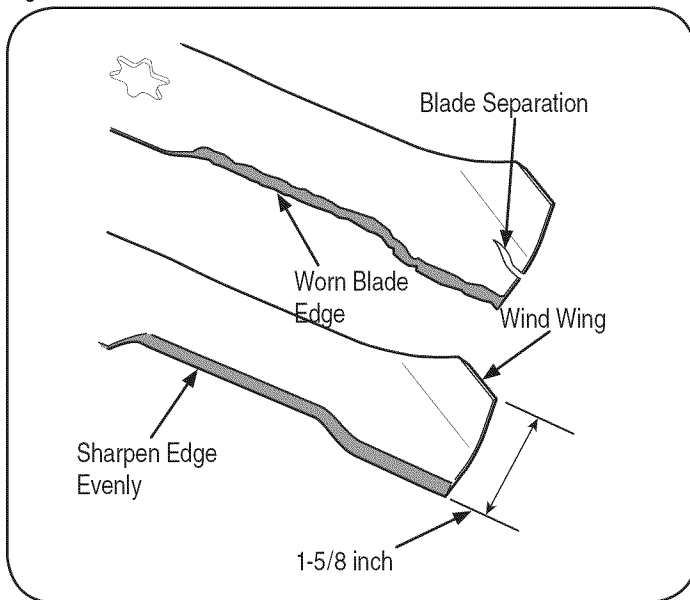

Figure 20
**IMPORTANT:** If the cutting edge of the blade has already been sharpened to within 1-5/8" width from the opposite edge, or if any metal separation is present, replace the blades with new ones. See Figure 20.